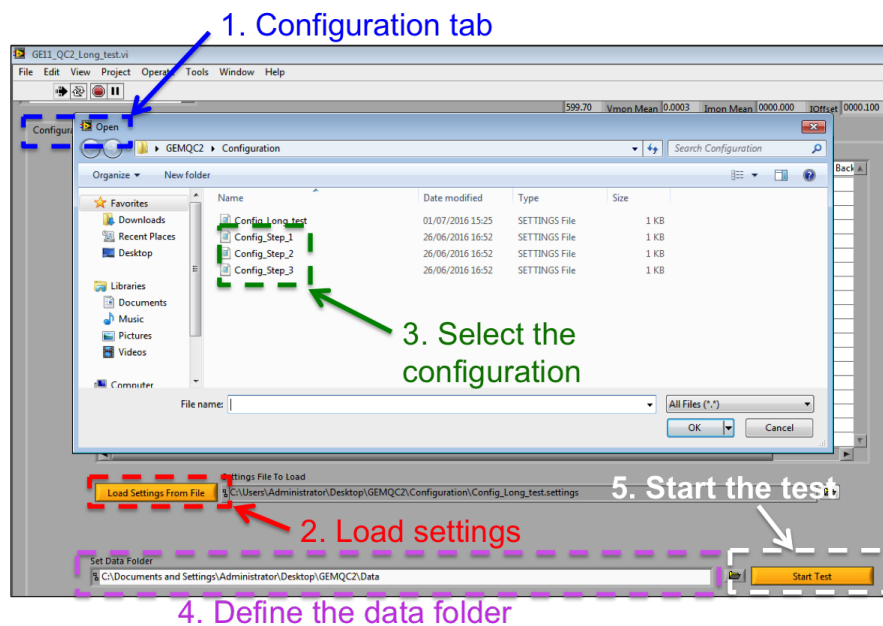

Figure 2.9: QC2 Labview configuration pannel.
5. In the Labview front panel, open the "Configuration" tab and click on the folder icon next to the field "Setting File To Load", as indicated on Fig. 2.9. Then select the configuration file "Config_Step_1" and click on the "Load Settings From File" button to load the configuration in Labview.
6. Indicate the absolute path the data directory in the field "Set Data Folder" (Fig. 2.9).